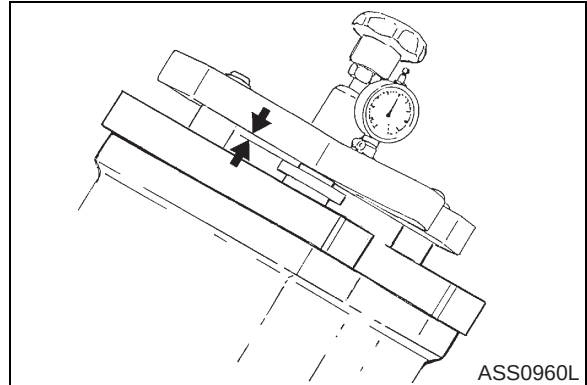

Figure 97
B. Size 140 - 200 (Figure 97).